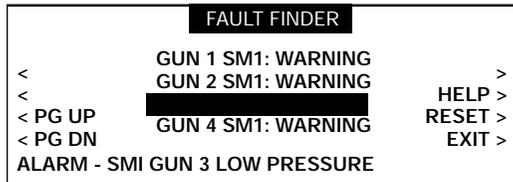

Fig. 2 FAULT FINDER screen
3. See Figure 2. Select HELP for diagnostic information on the fault.